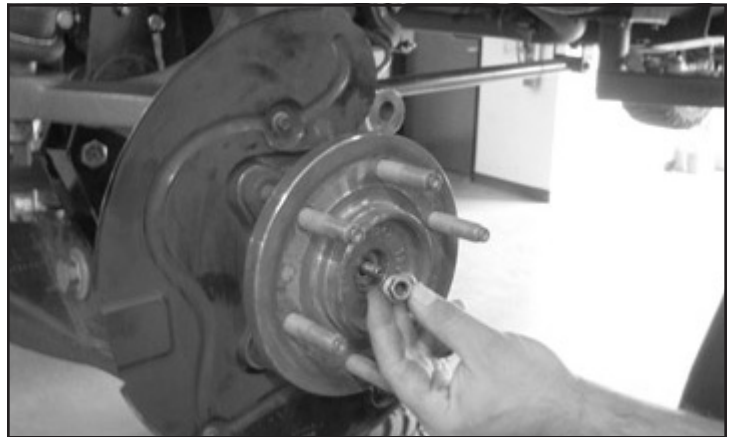

FIGURE 49 - STEP 45
45. Install the dust shield and torque to 14 ft-lbs. Install CV shaft nut and torque to 35 ft-lbs. Install the factory dust cover. **SEE FIGURE 49**